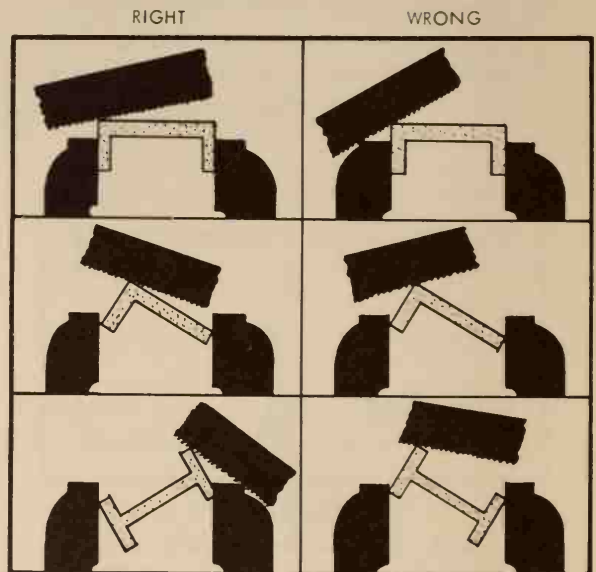

Fig. 4-23. Correct blade angle for starting cuts.
4. Hold the saw at the correct angle. Fig. 4-23 shows the right and wrong angles for cutting.